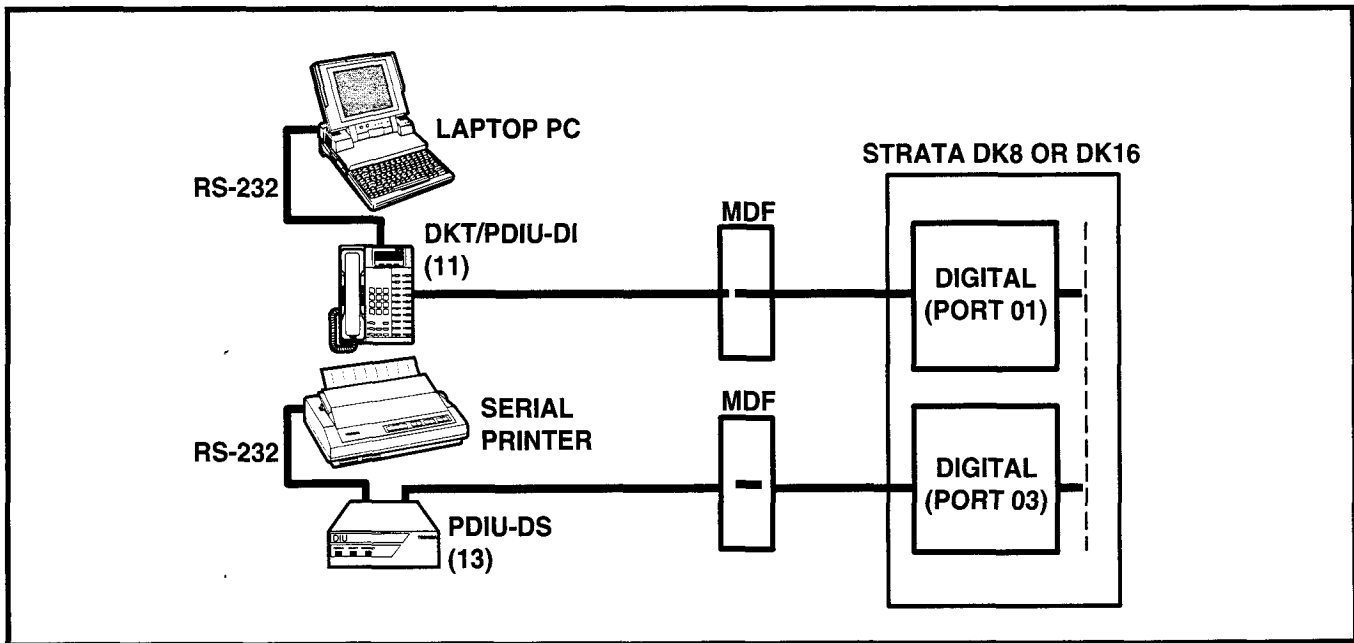

FIGURE 7-35
10.83 PC to Printer Test Call Using Manual Dialing (see Figure 7-35)